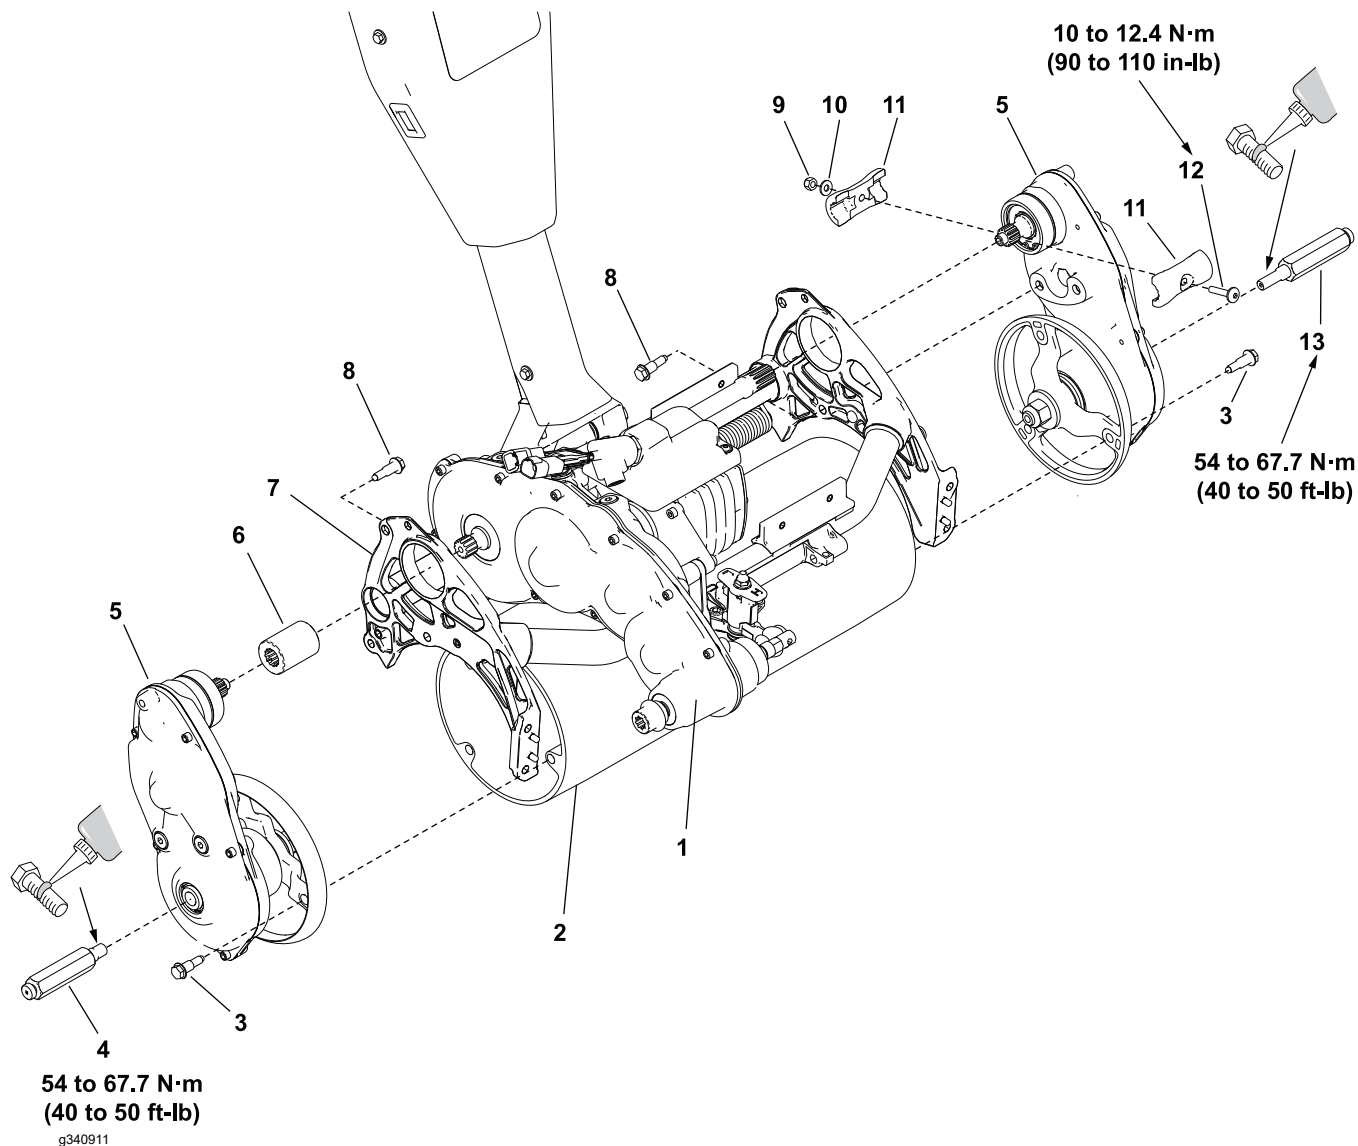

Figure 21
Note: Refer to Figure 21 during this procedure.
3. Position the LH and RH drum drive gear box assembly (item 5 in Figure 21) and traction drum (2) onto the frame assembly (7).
4. Secure the LH and RH drum drive gear box assembly (5) to the traction drum (2); refer to Installing the Drum Drive Gear Box Assembly \(page 4–16\).